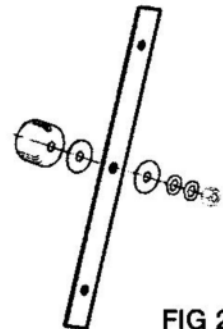

FIG 27
4. Remove 2 small washers, one large washer and the blade (Fig 27). Before installing blade and washers, clean all grit and grease. Assemble these parts clean and dry. Fit large washer, new blade, large washer, 2 small washers, and nut. Tighten nut to 15-20 ft. lbs. (20-27Nm) or hand tight with 8" (200mm) or longer spanner.